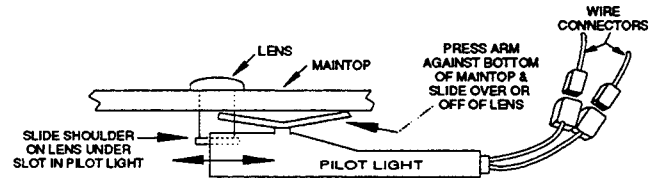

FIGURE 4-3
8. Lift the front of the maintop off the rough-in box so that you can access the pilot lights, (if your model has pilot lights). Remove the pilot lights, as shown on page 4-5. If the lenses are separate from the pilot light body, as shown in Figure 4-3, remove the lenses from the maintop after you unclip the body.